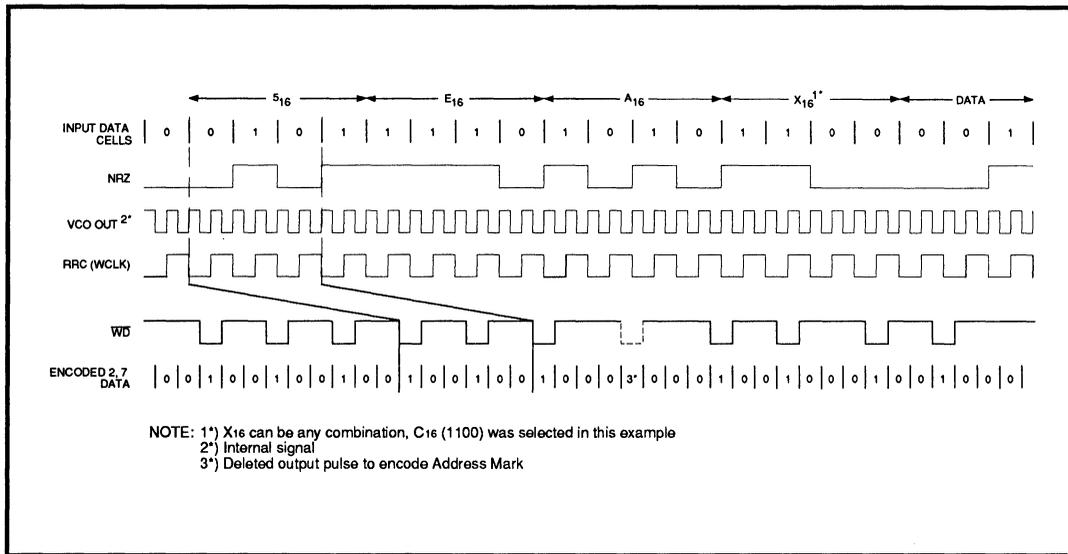

FIGURE 8: Write Address Mark Generation
In the Soft Sector Mode, when WRITE GATE (WG), transitions high and the NRZ input is held low, the SSI 32D5351A automatically generates the 3T (100) Preamble Field at the WRITE DATA (\overline{WD}), output. The 3T Preamble Field will continue to be generated until the first low to high transition on the NRZ line. As shown in Figure 8, the first low to high transition occurs with the second bit '1' of the 5_{16} (0101) in the $5EAX_{16}$ Address Mark generation pattern. To generate the Address Mark, the SSI 32D5351A automatically changes the '1' in the eleventh position (see note 3) of the 2, 7 RLL encoded sequence, to a '0'. This generates a pattern of seven zero's followed by two zero's. This unique pattern satisfies the 2, 7 RLL constraints, but will never occur during a normal encoding sequence. The x_{16} of the $5EAX_{16}$ Address Mark generation pattern can be selected, a 'C₁₆' (1100) was utilized in this example.